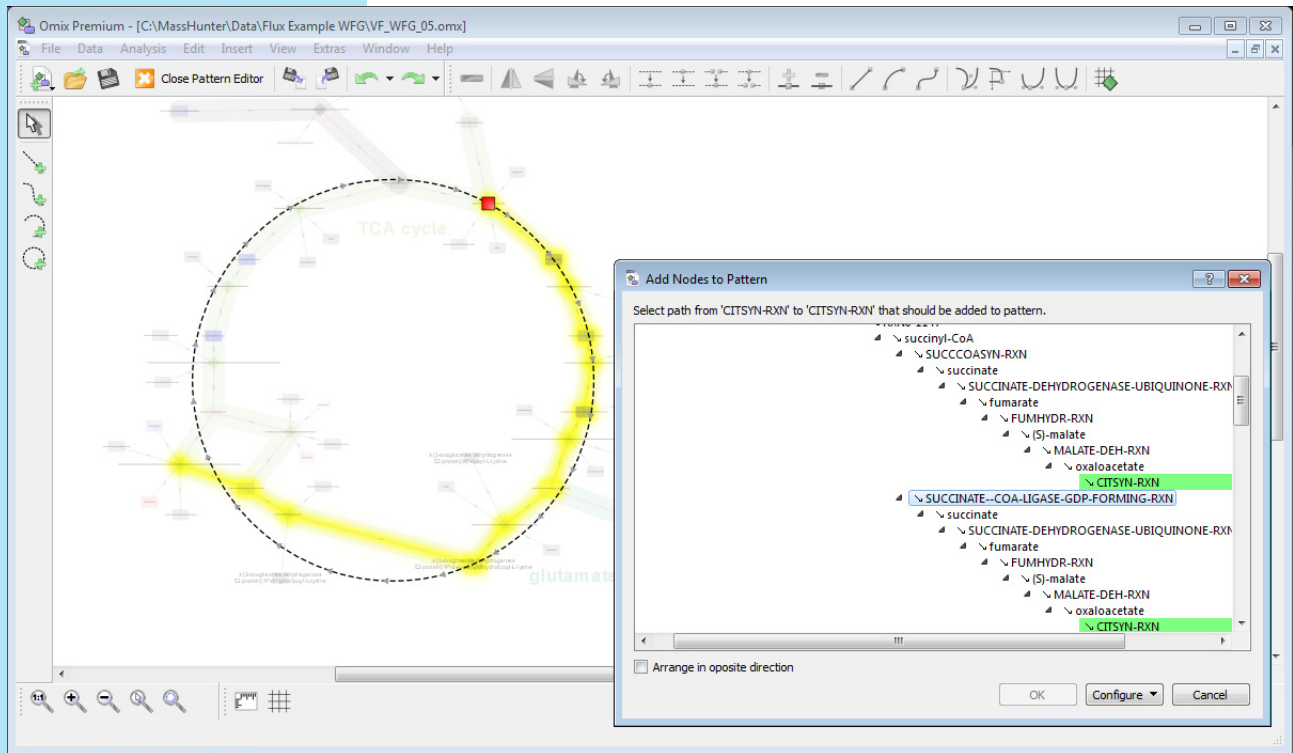

Figure 91 Adding nodes to the circle path
- Click on each successive metabolite and reaction to confirm the nodes you want to align to the circle pattern. When a node, a metabolite, or reaction is clicked the pathway is highlighted to provide a visual confirmation of the pattern alignment you selected (Figure 91 on page 91).
The beginning of the path is labeled *Pathway: 'TCA cycle'* and each successive node of the pathway is cascaded below and to the right. The starting node, CIT-CYN-RXN, is determined by where the circle was initially placed with respect to the pathway. When a pathway has a branch, an alternate cascaded sequence of nodes is presented further down the list of nodes. Move the **Add Nodes to Pattern** dialog box away from the *Drawing Area* so you can preview the layout path highlighted in yellow on the pathway diagram as shown in Figure 91 on page 91.